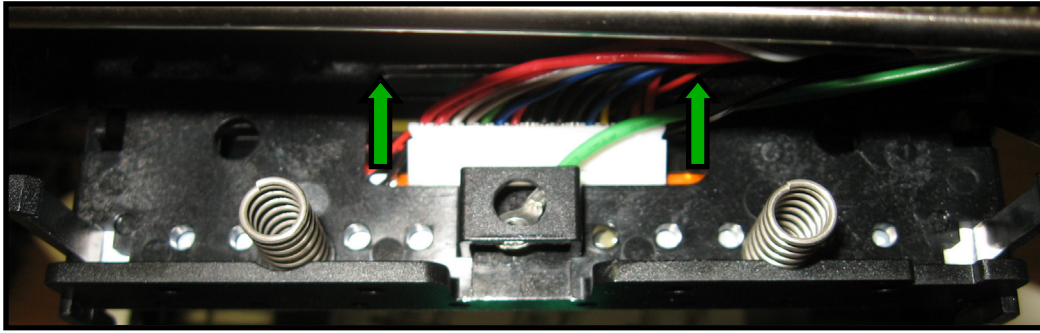

Figure 6
6.) Disconnect the printhead cable from the printhead. (Fig 6)